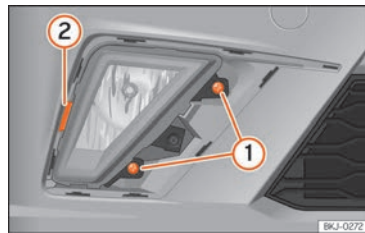

Fig. 166 Fog light: detach the bulb holder
- Remove the two bolts >>> Fig. 166 ① and lever the clip ② to remove the front fog light.